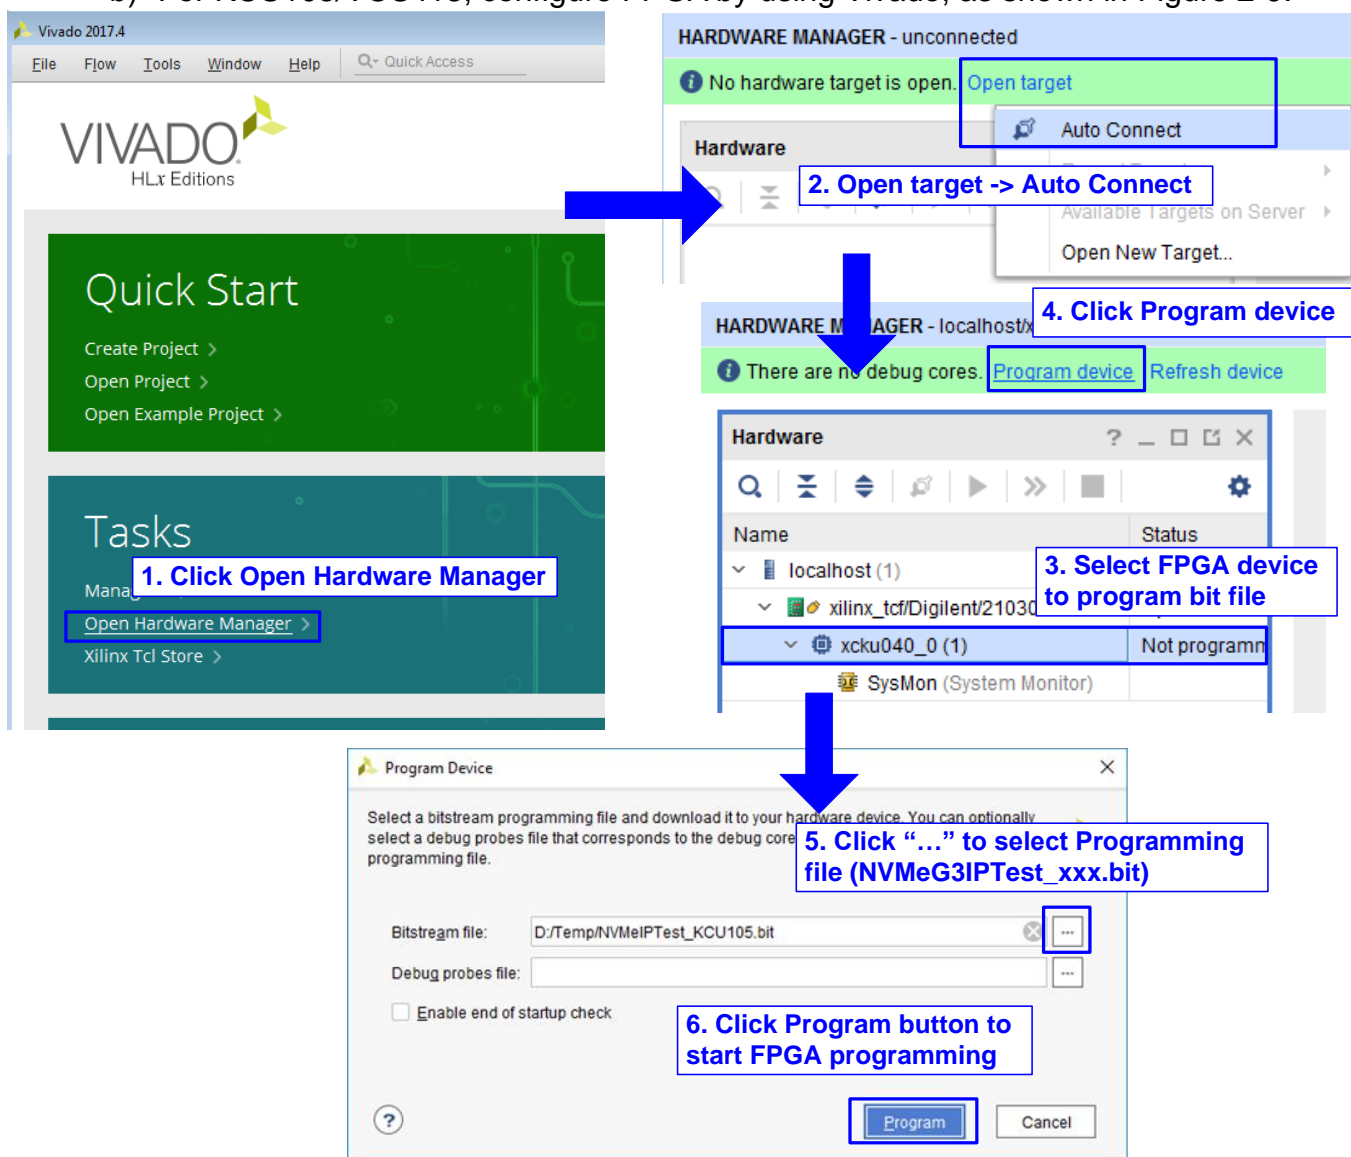

Figure 2-9 LED status after program configuration file and PCIe initialization complete
b) For KCU105/VCU118, configure FPGA by using Vivado, as shown in Figure 2-9.